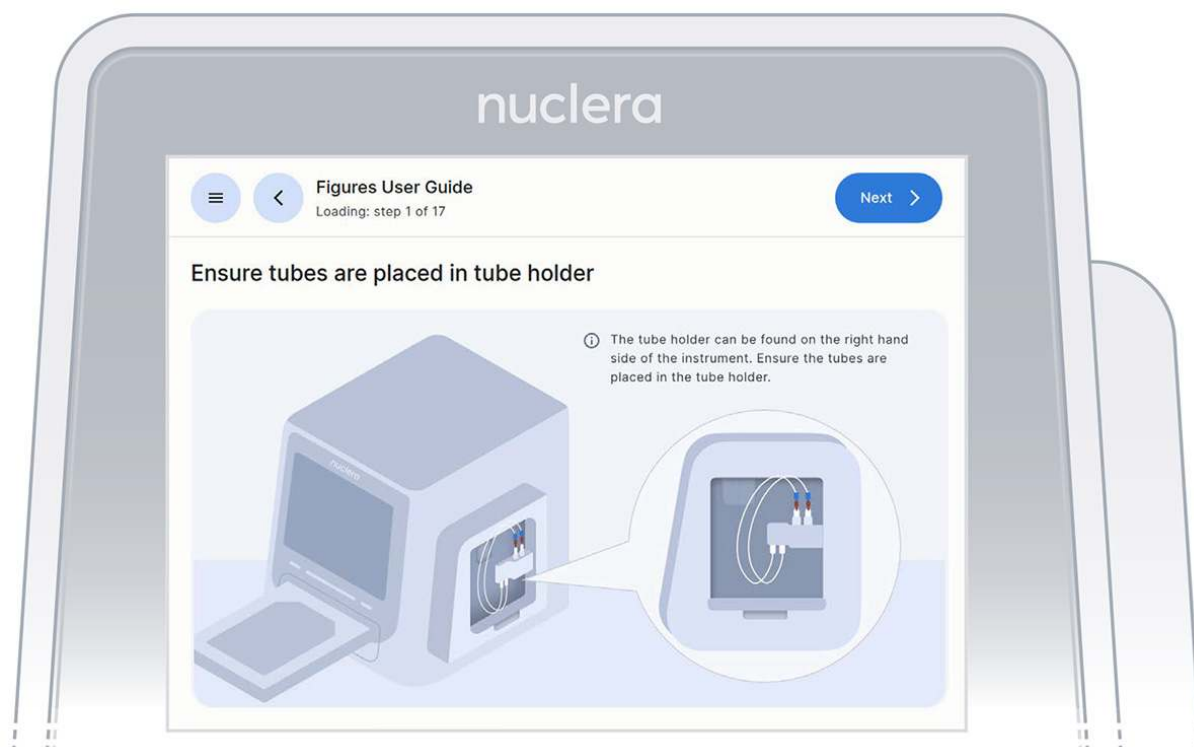

Figure 13: Loading of the cartridge on the eProtein Discovery instrument
1. On the right hand side of the instrument, ensure the tubings for the integrated pump are placed in the tubing holder, and press the **[Next]** button (Figure 13).